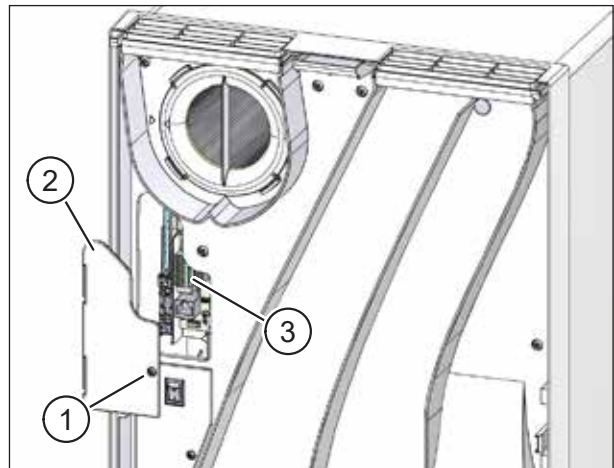

Fig. 26: Removing the electronics compartment cover plate
- ▶ Use the screwdriver to loosen the Torx screw (item 1 in Fig. 26) on the electronics compartment cover plate (item 2 in Fig. 26).
- ▶ Remove the electronics compartment cover plate to access the connection board (item 3 in Fig. 26).